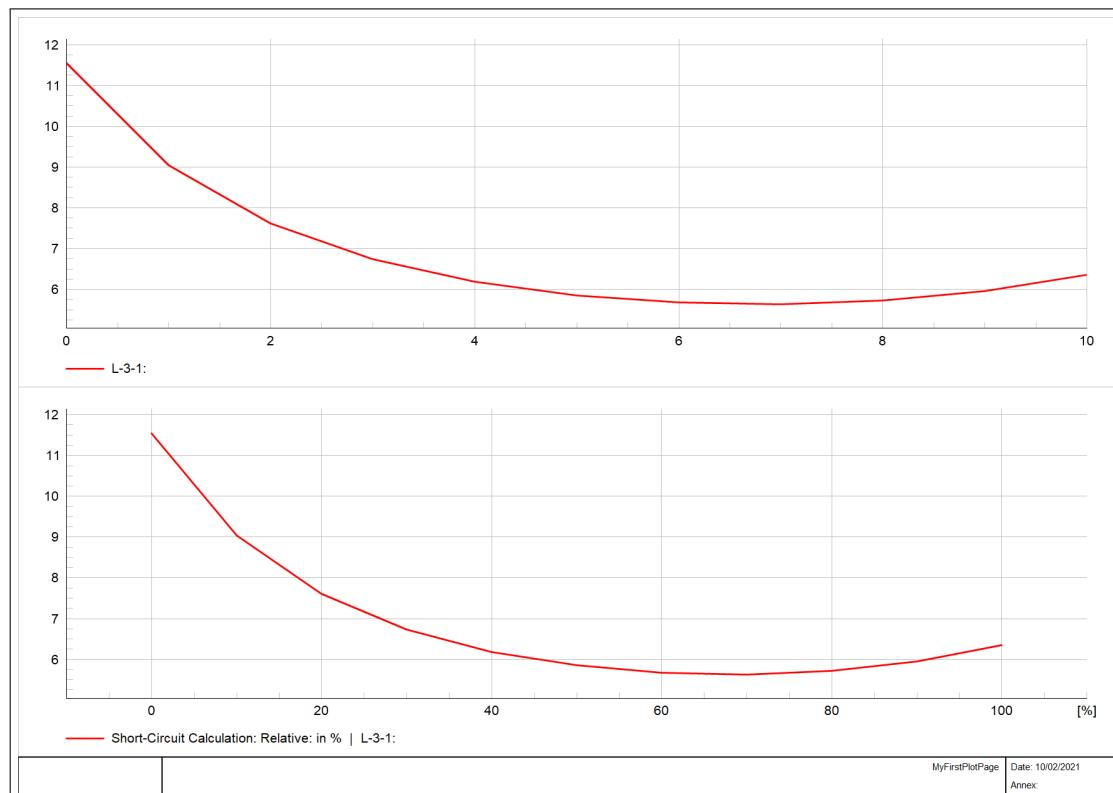

Figure 7.1: Plot page with two curve plots
- After the script execution the diagram should be displayed like shown in the first diagram of figure 7.1.